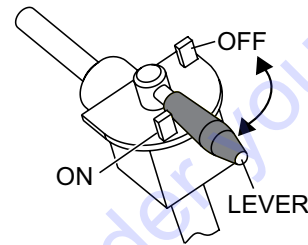

Figure 4. Fuel Shut-Off Valve
1. Place the fuel shut-off valve (Figure 4) in the **OFF** position.